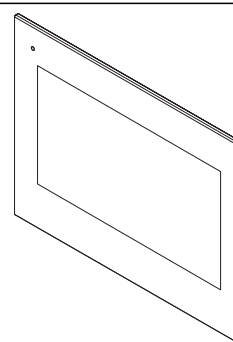

Fig. 7
5. The video intercom is installed (**Fig. 7**), power up the system and check that it works correctly.